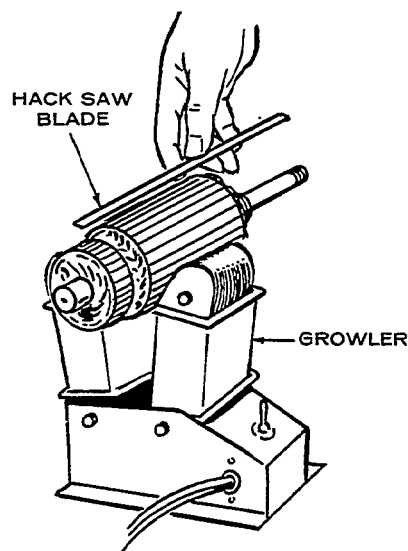

FIGURE 20. TESTING ARMATURE FOR SHORT CIRCUITS
2. **Testing Armature for a Short Circuit:** Use a growler for locating shorts in the armature. Place armature in growler and hold a thin steel blade (e.g. hacksaw blade) parallel to the core and just above it while slowly rotating armature in growler. A shorted armature will cause the blade to vibrate and be attracted to the core. If armature is shorted, replace with a new one (Figure 20).